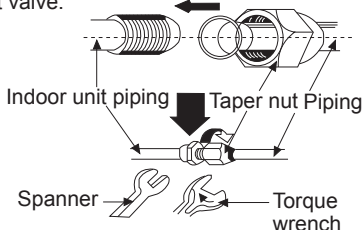

Fig.8
3. Hange the mounting slots of the indoor unit on the upper tabs of the rear panel and check if it is firm enough.(As show in Fig.8)